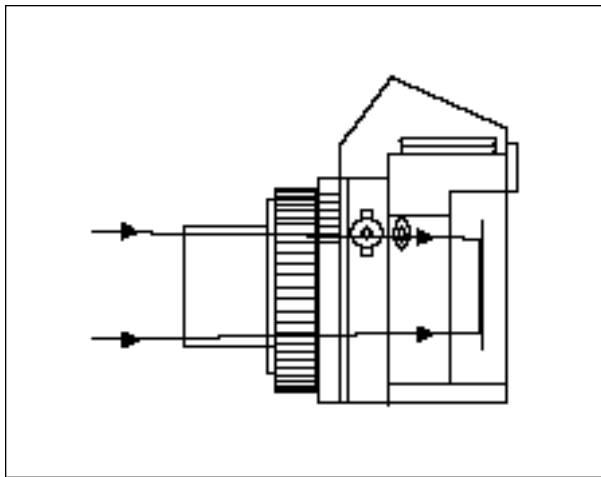

Fig. 15: Prime-Focus Photography.
3. Thread the prime-focus section of the Basic Camera Adapter (optional) into the front of the T-Mount now attached to your camera (Fig. 15).